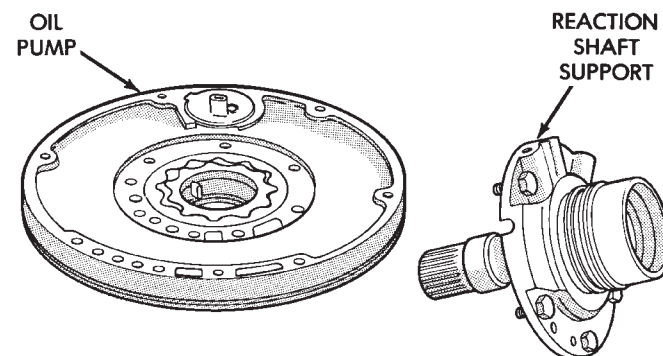

Fig. 156 Reaction Shaft Support
(1) Mark position of support in oil pump body for assembly alignment reference. Use scribe or paint to make alignment marks.
(2) Place pump body on two wood blocks.
(3) Remove reaction shaft support bolts and separate support from pump body (Fig. 156).